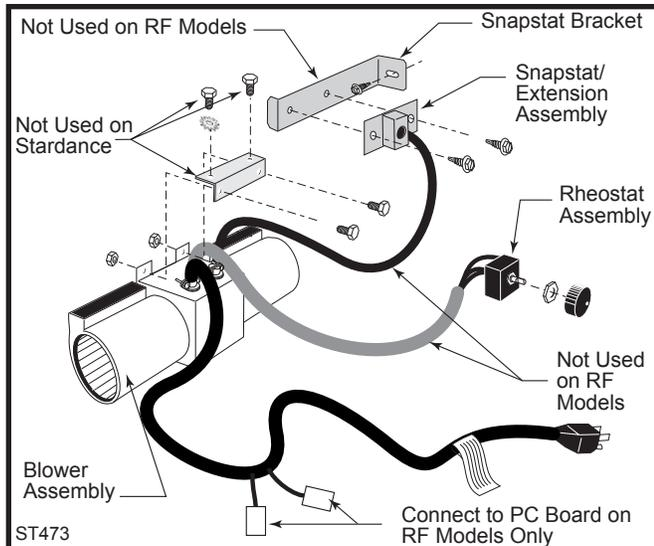

Fig. 14 Fan kit components.
1. The fan kit includes a Blower Assembly and a Rheostat Assembly, connected by a cable. (Fig. 14) The Blower Assembly mounts to the bottom rear of the stove, and the Rheostat mounts to the valve bracket to the left of the valve. The assembly includes a 'snapstat' which automatically turns the fan On (or Off) above (or below) approximately 109°F. The Rheostat also provides a range of fan speed settings from Off (which overrides the snapstat function) to High. Unpack and inspect the Blower assembly. Confirm the fan spins freely.